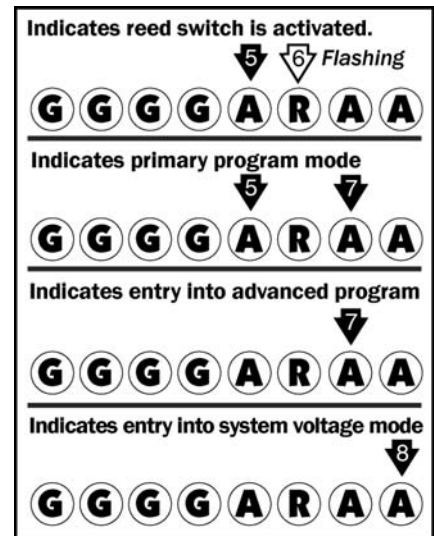

Figure 14 - LED display protocol indicating entry into advanced programming mode.
1. ACTIVATE-HOLD the magnetic reed switch. LED #5 will illuminate and LED #6 will flash several times (Figure 14).